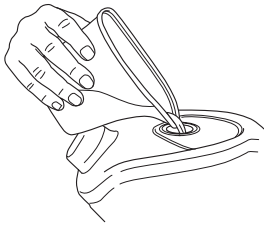

fig. 4
- 2 Use the filling flask and pour water into the tank. Do not overfill. Replace the cap on the water tank. **(fig. 4)**